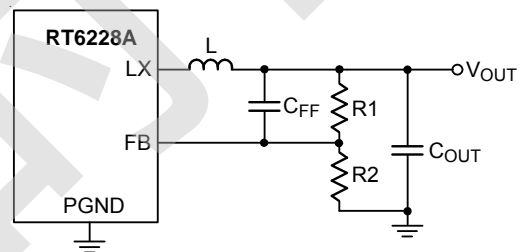
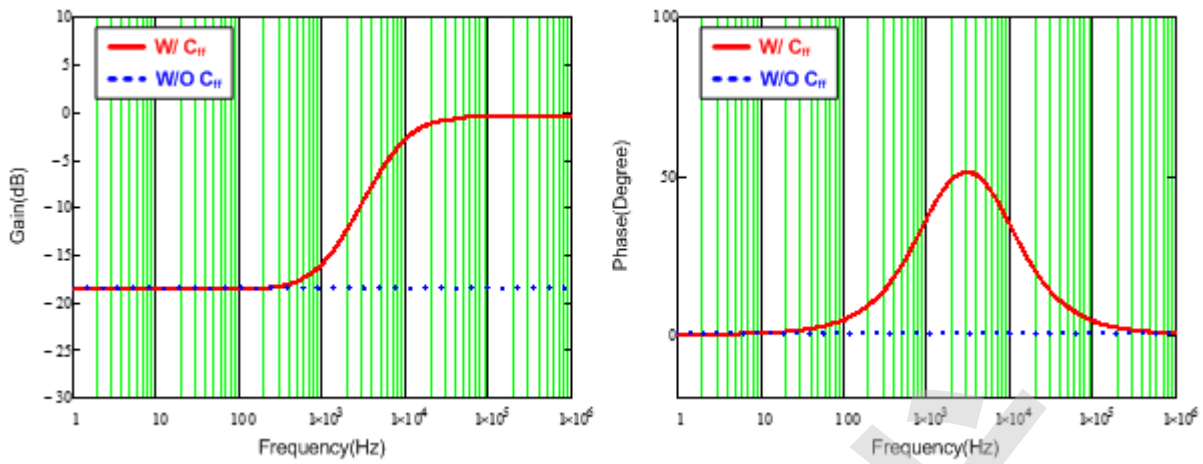

Figure 6. Feedback Loop with feedforward Capacitor.
Figure 7. Bode Plot with Different Feedback Loop Conditions
For saving time to design compensator and reducing the layout area through external components, the components of compensator are integrated in IC. However, this integrated compensator might not suit to every load transient spec. Hence, for the RT6228A to be more adaptable, the feedforward capacitor C_{FF} is used in the feedback loop to improve transient response, as shown in Figure 6. Figure 7 shows the comparison result of bode plot with different feedback loop conditions. Referring to Figure 7, through connecting a C_{FF} in feedback network, the gain and phase are raised in mid-frequency that not only can extend the bandwidth, but boost the phase margin as well. Moreover, there is also a high frequency pole to eliminate high frequency noise. Consequently, those features of feedforward feedback network allow the RT6228A have faster response to handle different load transient.
Observing Figure 7, the maximum phase boost occurs between zero and pole frequencies that is defined as maximum phase boost frequency, as expressed in equation (4). Hence, in order to achieve the maximum phase boost by adding C_{FF} in the RT6228A, the system's original bandwidth has to be located at maximum phase boost frequency.